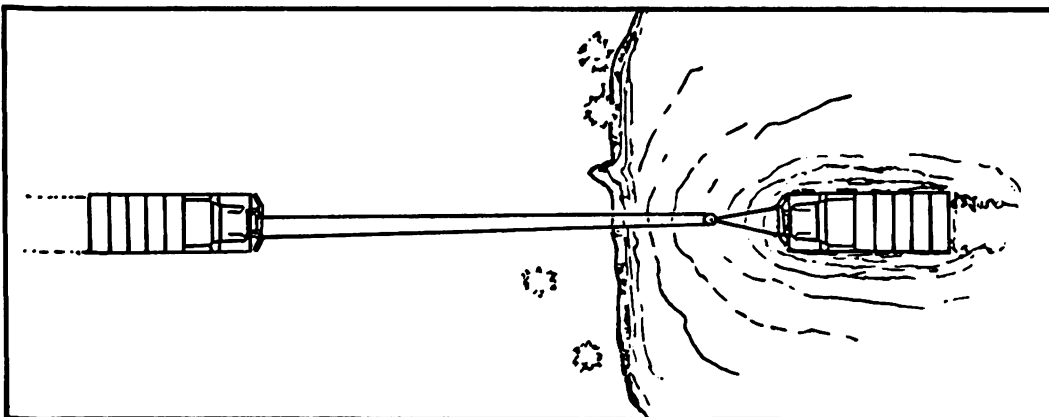

Figure 2. Winching with a similar vehicle.
b. To recover a mired cargo truck by winching, a truck of equal or greater capacity should be used to perform the winching operation. As an example, a mired $1\frac{1}{4}$ -ton cargo truck may be winched with either a $1\frac{1}{4}$ -ton or $2\frac{1}{2}$ -ton vehicle. All winch-equipped trucks are authorized a single sheave snatch block and one tow chain for rigging. A mechanical advantage is required if the resistance of the mired truck is greater than the winch capacity. The winching vehicle must be positioned in line with the mired vehicle so the correct fleet angle is obtained. The winch cable must be free-spoiled from the drum and the free end of the cable attached to one of the winching vehicle's front lifting shackles or to a separate anchor. A chain sling is formed between the lifting shackles of the mired vehicle and the snatch block is attached in the apex of the sling. The loop formed in the winch cable is placed in the snatch block and power is applied to the winch to remove the slack from the cable (figure 2).